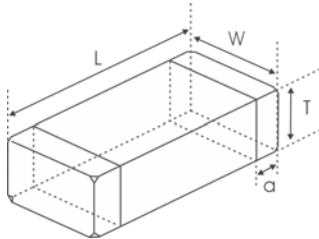

Fig. 4-1
- Dimensions: See **Fig.4-1** and **Table 4-1**.